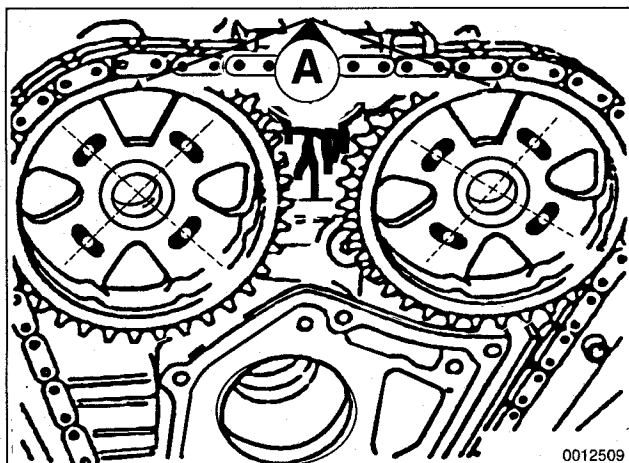

Fig. 20. Camshaft chain sprockets installed with arrows (A) pointing up and camshaft threaded holes centered in slotted holes.
11. Place chain sprockets with chains on camshafts so that arrows on sprockets point up and elongated holes in sprockets are centered to tapped holes in camshafts. See Fig. 20.